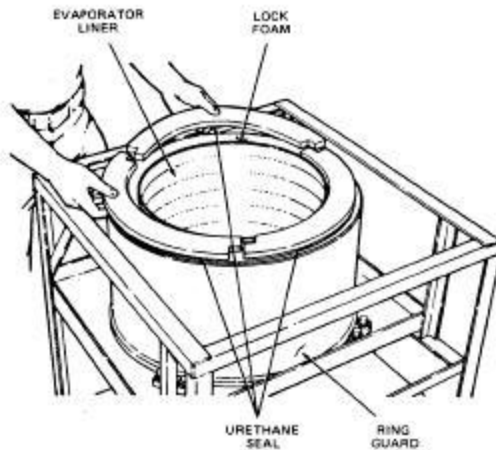

Figure 11-16. Install Urethane Seal
- c. Remove the adhesive backing and install the 3 pieces of urethane seal supplied in the kit on top of the lock foam insulating material, Figure 11-16.